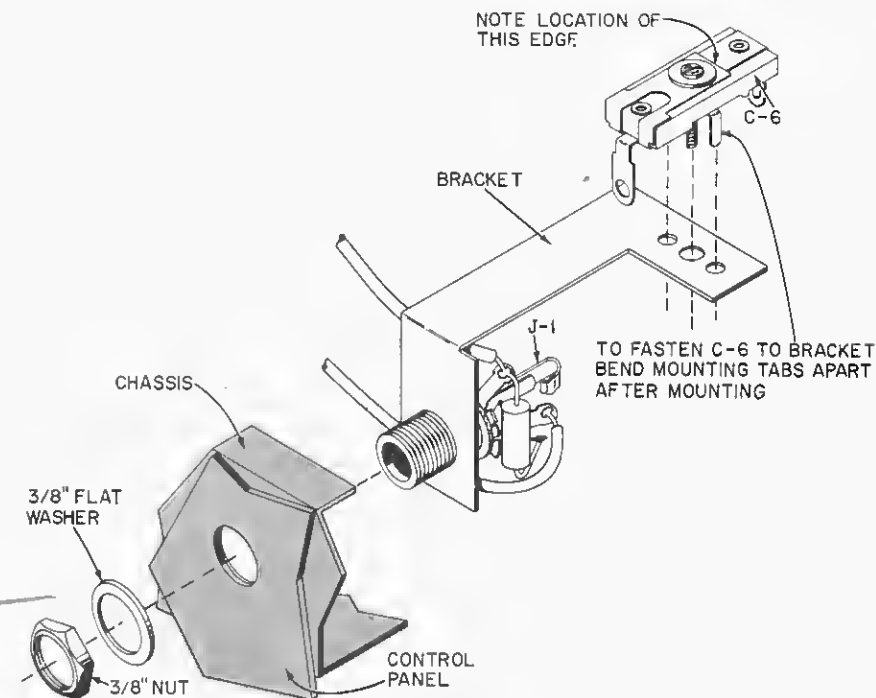

FIGURE 29
- ☒ C-6, 3-50 μ f trimmer capacitor and L shaped mounting bracket. Carefully study Figure 29. Position C-6 on the bracket exactly as it is shown. Insert the two mounting tabs in the holes in the bracket and bend them with your longnose pliers.